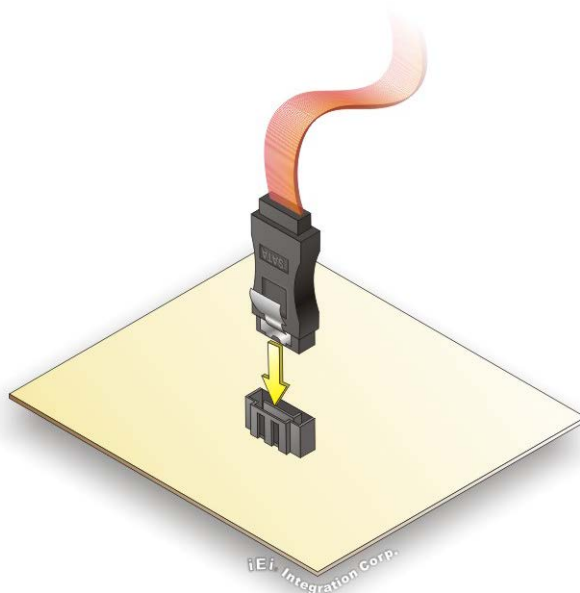

Figure 4-10: SATA Drive Cable Connection
Step 2: Insert the cable connector. Insert the cable connector into the on-board SATA drive connector until it clips into place. See **Figure 4-10**.